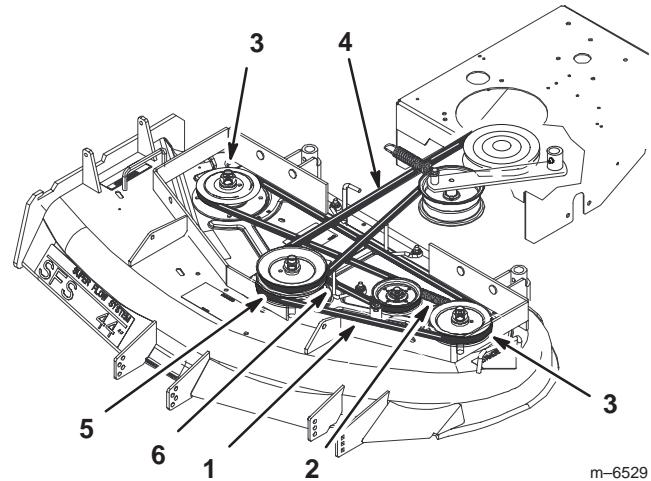

Figure 73
5. Disconnect the idler arm spring to relieve tension on the idler arm and idler pulley, then remove the worn deck belt (Fig. 73).
6. Install the new deck belt around the two outside spindle pulleys, the idler pulley, and in the lower groove of the center spindle pulley (Fig. 73).
7. Connect the idler arm spring (Fig. 73).
9. Adjust deck belt guide an 1/8 inch (3 mm) from belt (Fig. 73).